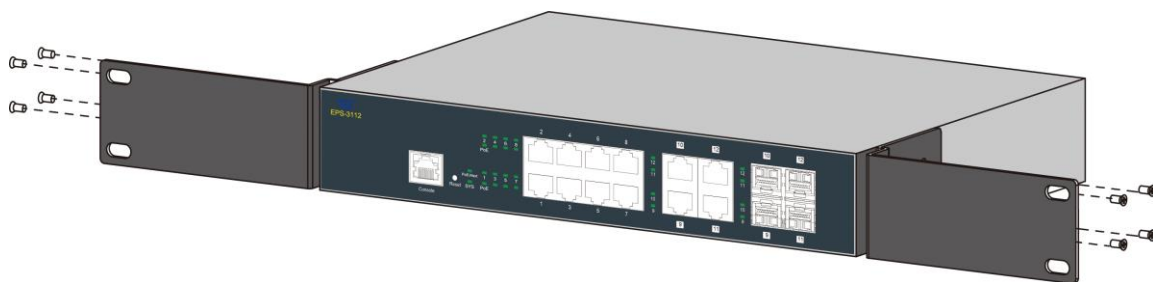

Figure 2-1. EPS-3112 Switch
Step 2. Attach the supplied rack mounting brackets to the switch (See Figure 2-1):
- Step 3.** Insert the screws provided in the rack-mount kit through each bracket and into the bracket mounting holes in the switch. Then, tighten the screws with the screwdriver to secure each bracket. (See Figure 2-1)